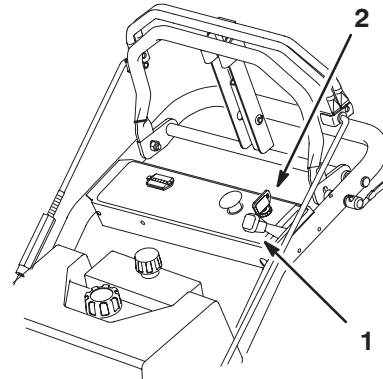

Figure 12
5. Move the throttle lever to the slow position (Figure 12).
6. Turn the ignition key to off (Figure 12).